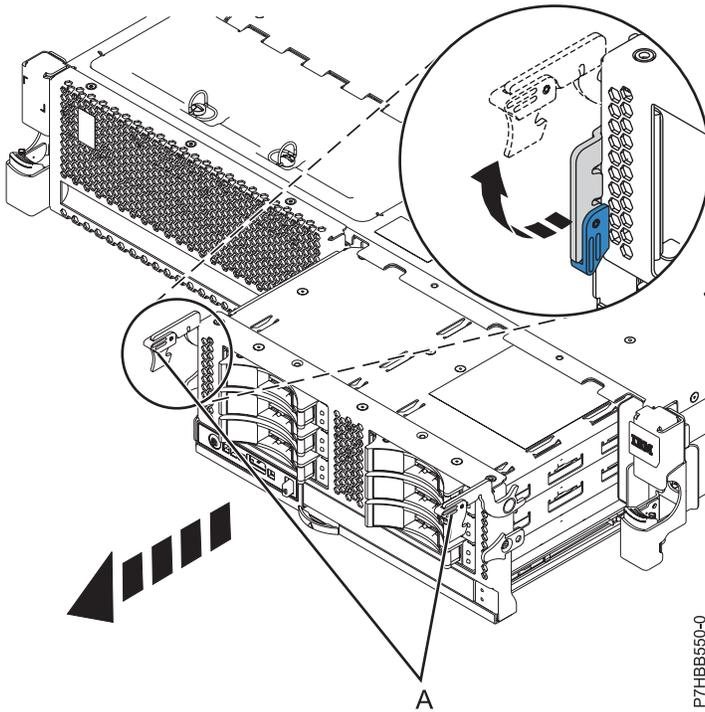
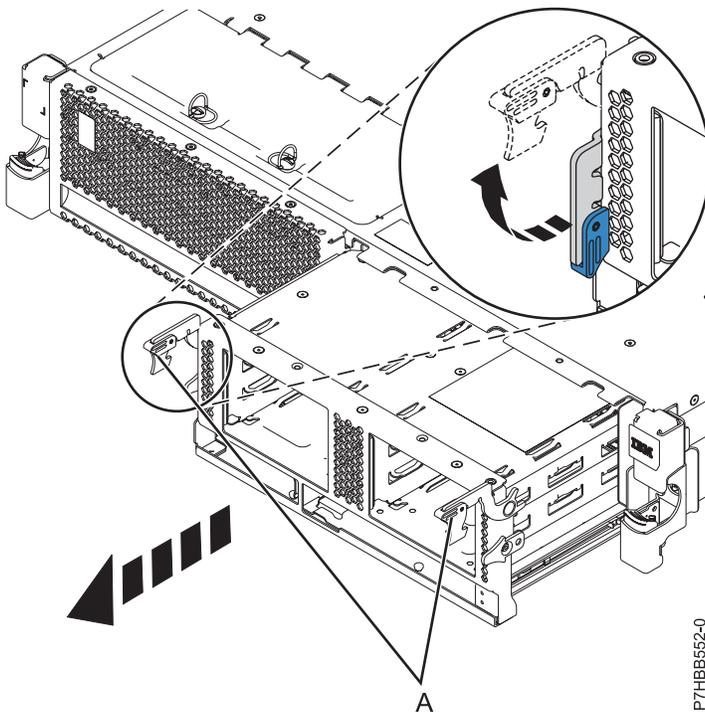

Figure 31. Removing the backplane populated with disk drives
Figure 32. Removing the backplane that is not populated with disk drives
13. Unlock the disk drive backplane by pulling the handles (A) open from the center of the backplane as shown in Figure 31 and Figure 32.